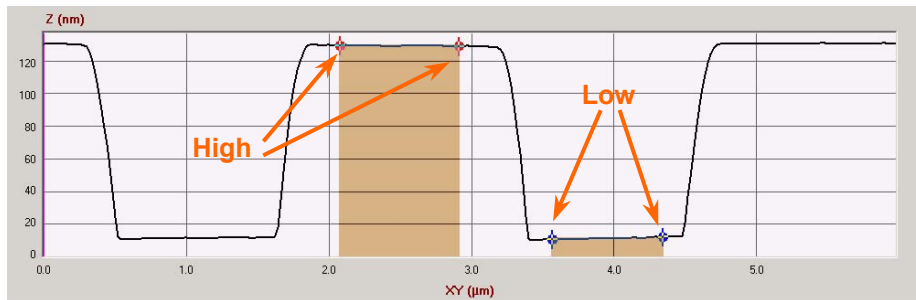

Figure 9-6 Horizontal cross-section of a step height standard with the cursors positioned to measure the step.
4. Open the **Calibration** window. Press the *Horizontal Section* button to create a horizontal cross-section running perpendicularly through the grating lines, as in Figure 9-6. Move the red cursor markers on the section graph to the top of a step; move the blue cursor markers to an adjacent trough, as shown in the figure.